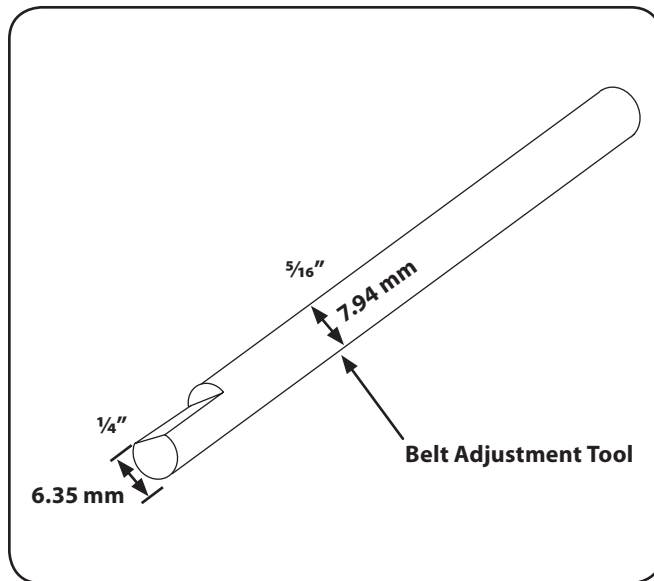

Figure 6-12
1. Before taking a measurement, be sure the linkages and pivot points on the Wheels/Tines/PTO Drive Lever are clean and lubricated. If there is any binding, you won't get true measurements. Also, you'll need the belt adjustment tool you received with your new tiller. See Fig. 6-12.